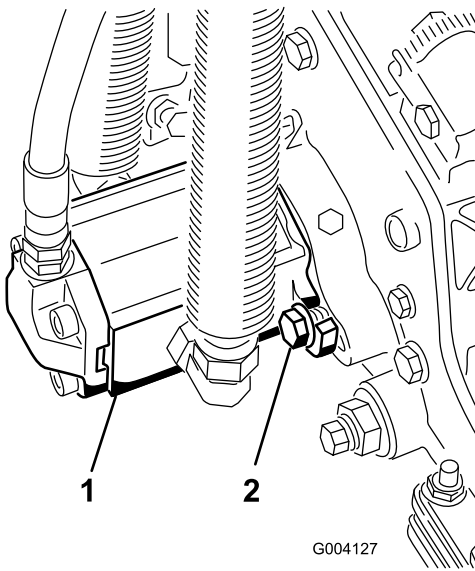

Figure 13
16. Install the motor by rotating it clockwise so that the motor flanges clear the bolts (Figure 13).